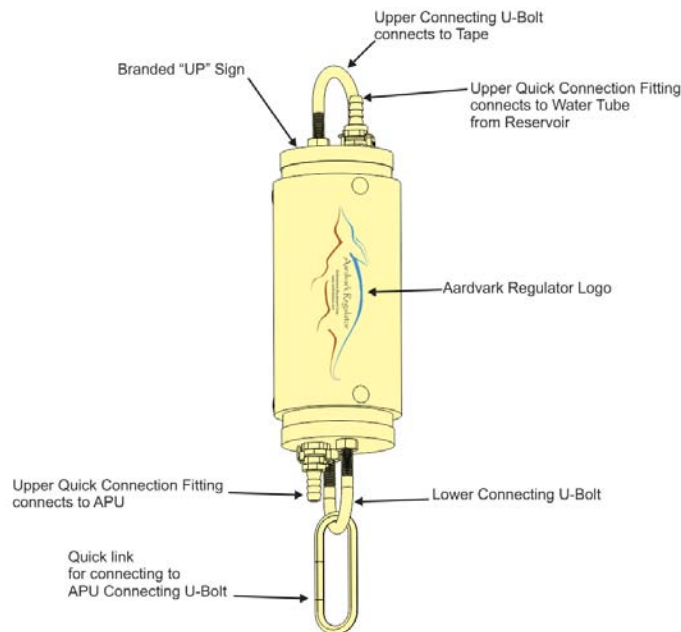
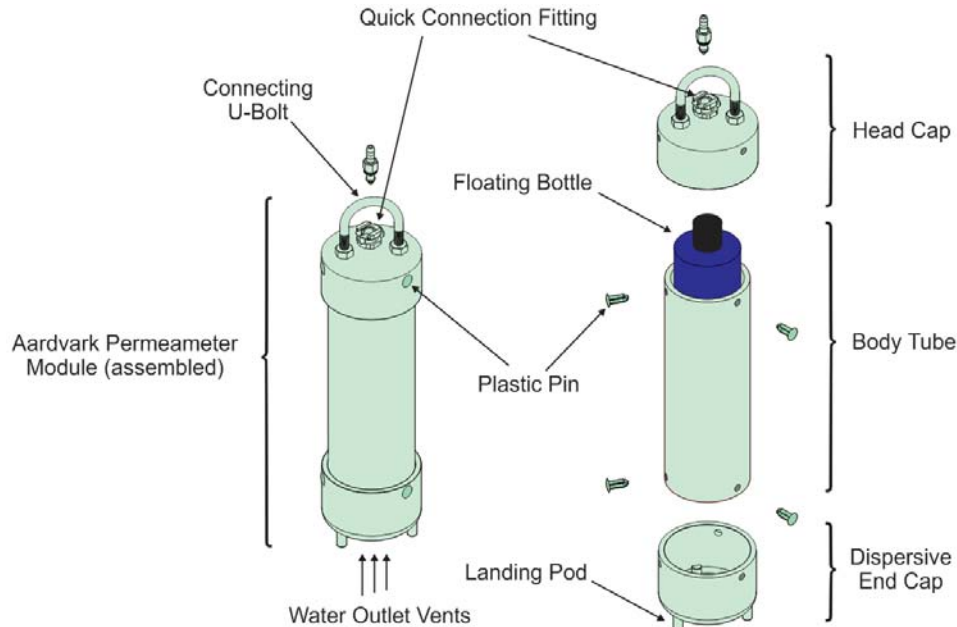

Fig. 8. Aardvark Regulator Unit
Fig. 9. Left: assembled Aardvark Permeameter Unit. Right: Major Components of APM.
Determine input and output of the RU. The RU is completely symmetrical, so it is very important to install the RU right side up. (The Aardvark in the Logo should be “crawling out of the hole”). The RU input tube is towards the Aardvark head in logo (up). The input tube connects the RU to the Reservoir. The RU output tube is towards Aardvark’s tail in the logo (down). The RU output (Fig. 8) connects the RU to the APM. If, for any reason, the Aardvark Regulator logo cannot be clearly seen on the RU, there is a Branded “UP” sign on the top of the RU that can be used for proper orientation.
The Aardvark Permeameter Module is shipped completely assembled and ready to use (Fig. 9 left). The Aardvark Permeameter Module has three major parts: The Head Cap, The Body Tube and The Dispersive End Cap (Fig. 9, right).
On the top of the Head assembly there is a stainless metal U-Bolt (UB) for connecting to the Suspension Line (Measuring Tape) or Quick Link of the Pressure Regulator (Fig. 8). It is used for hanging and lowering the APM in a Borehole. The Quick Connection (QC) provides an easy and secure connection between the Head Assembly and Connecting Tubing (Fig. 9 right).